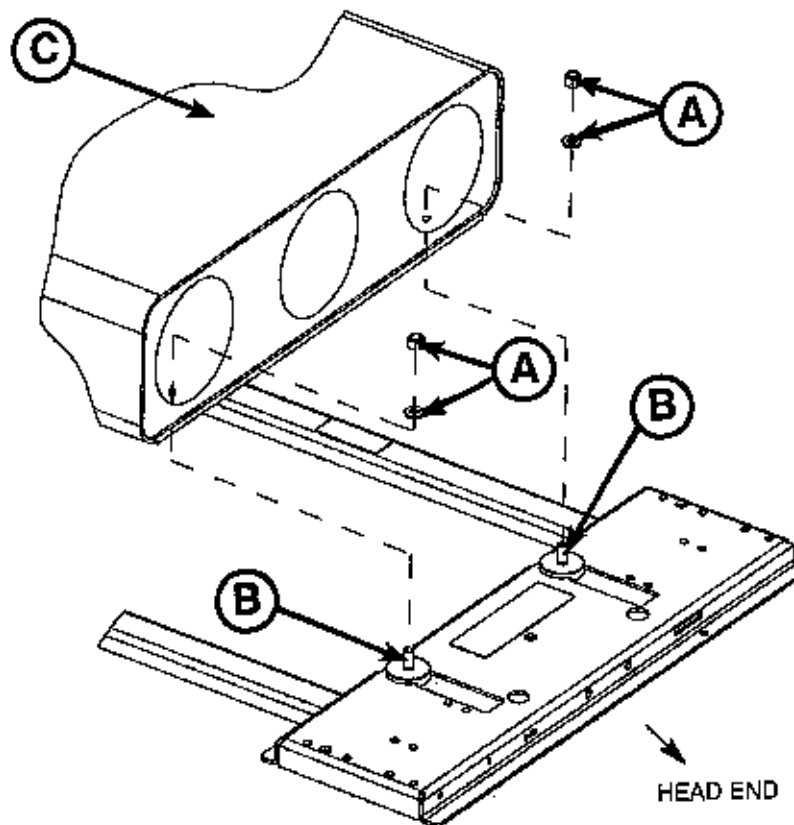

Figure 41: Airborne™ Stackable
1. Using the 1/2" socket and ratchet, remove the four 5/16" hex nuts and washers (A) from the mounting studs (B) on the adaptor as shown in Figure 41.
2. Locate the mounting holes in the bottom of the oxygen bottle module (C).
3. Install the oxygen bottle holder on the adaptor mounting studs (B) with the bottle openings facing toward the retractable head section. Verify that all four mounting studs are properly seated into the mounting holes of the oxygen bottle holder.
4. Using a 1/2" socket and ratchet, install the four 5/16" hex nuts and washers (A) that were removed in step one and securely tighten them.